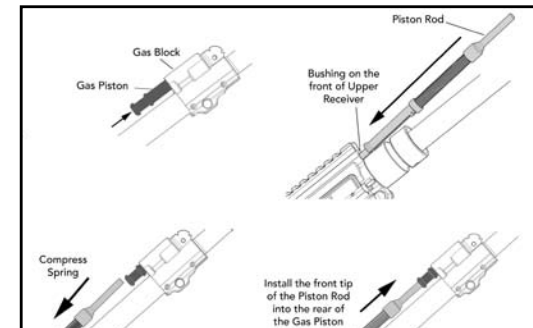

Fig. 40 – Reinstalling the Gas Piston and the Piston Rod
- Install the gas piston into the back of the gas block. The piston rings need not be staggered prior to installation (Fig. 40).